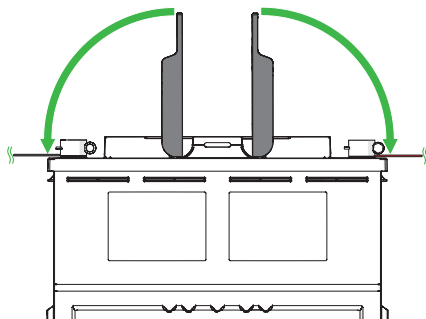

Figure 5. Place the handle covers over the terminals
4. Place the handle covers over the terminals. (Figure 5)